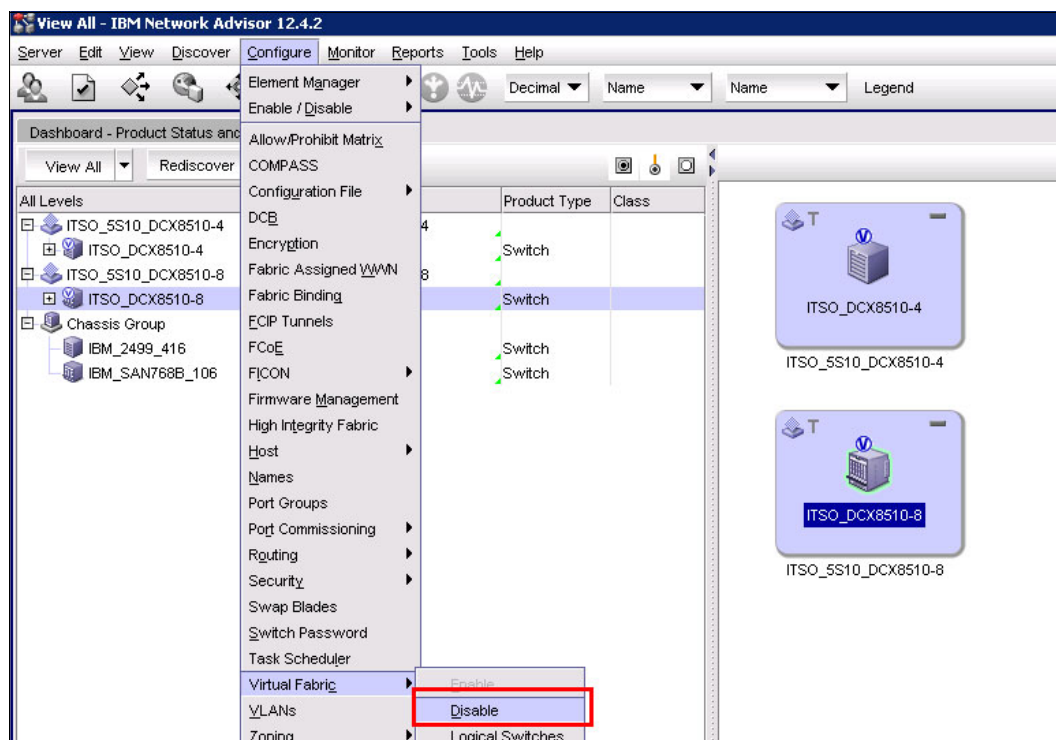

Figure 8-5 Disable Virtual Fabric
1. Select the switch in the chassis group that is displayed in the product list, right-click to open the drop-down menu options, and select the option to disable Virtual Fabrics, as shown in Figure 8-5.